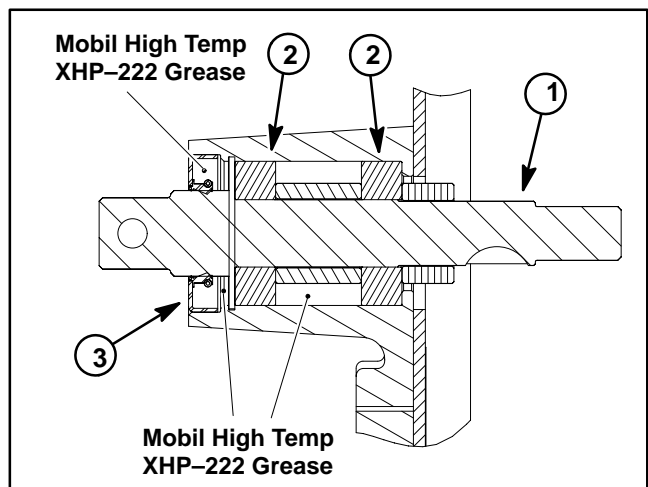

Figure 8
4. Fill small cavity between outer bearing and seal location in bearing housing approximately half full of Mobil High Temperature XHP-222 grease (or equivalent) (Fig. 8).
5. Pack rear cavity of oil seal with Mobil High Temperature XHP-222 grease (or equivalent) (Fig. 8). Install oil seal into housing.